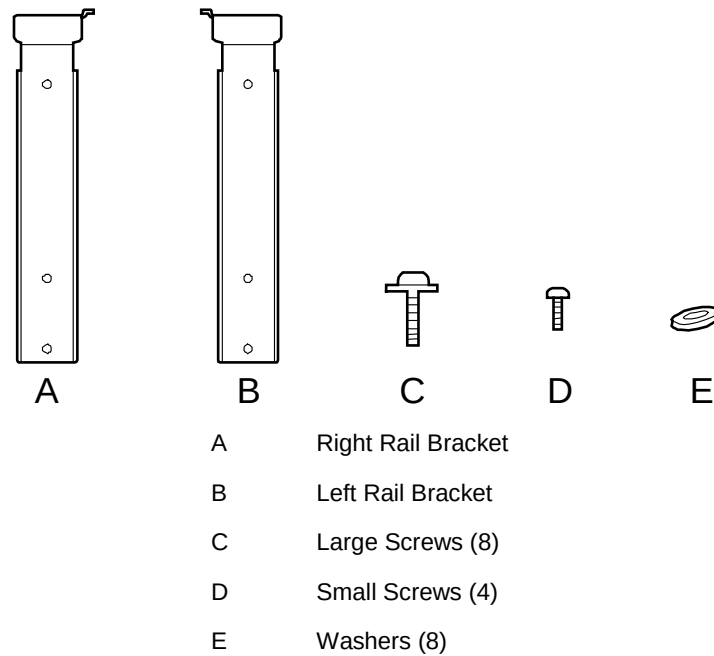

Figure 2-1. Rack Components
The rail assemblies may be shipped already mounted to the sides of the server. The following additional components are needed to install the server into the rack. See Figure 2-1.
2. Line up the screw holes (slots) at the end of each rail assembly to the screw holes in the rail bracket. Install two small screws (Figure 2-1, D) into each rail bracket and loosely tighten the screws to temporarily secure the rail assembly and bracket. See Figure 2-5.